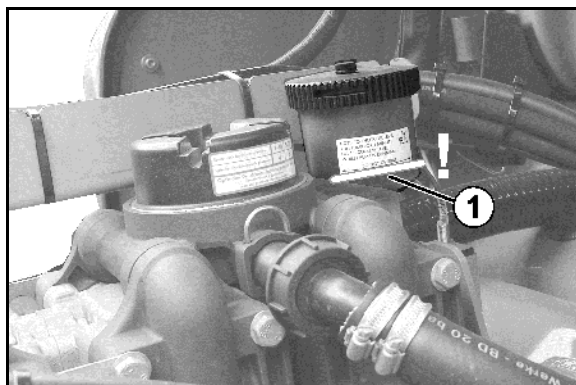

Fig. 200
2. Slacken the screws (Fig. 200/1).
3. Remove the valve cover (Fig. 200/2).
4. Check the piston diaphragm (Fig. 200/4) and the wedge ring (Fig. 200/5).
1. Loosen bolt (Fig. 200/3) and remove the piston diaphragm (Fig. 200/4) together with the holding washer from the piston.